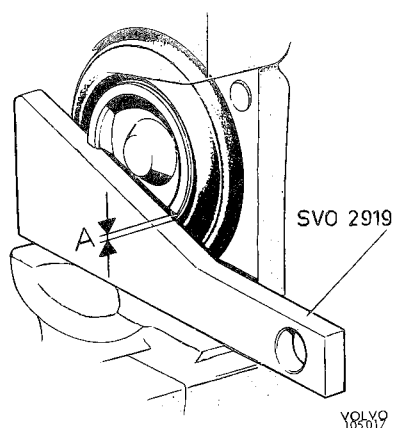

Fig. 5-29. Checking location
3. Check to make sure the pistons are in the proper position to avoid brake squeal. The piston recess should incline  $20^\circ$  in relation to the lower guide area on the caliper. Check the location with template 2919, see Fig. 5-29. The tolerance is  $\pm 2^\circ$ , that is, when the